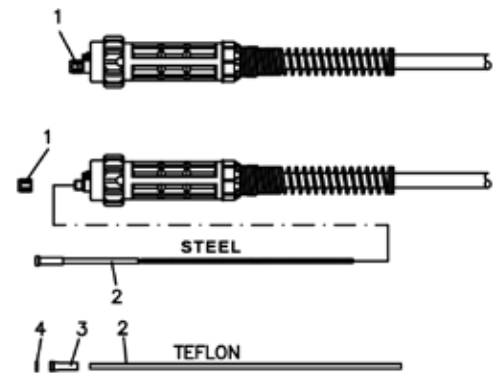

Figure 6
- Place it on a flat surface and carefully remove the brass nut (Fig. 6) (1).
- Install the new liner and mount the brass nut (Fig. 6) (1) again. In case you are replacing a Teflon wire liner, follow these instructions:
- Install the new liner followed by the collet (3).
- Insert the O ring (4) on the wire liner collet (4) and replace the brass nut (1).